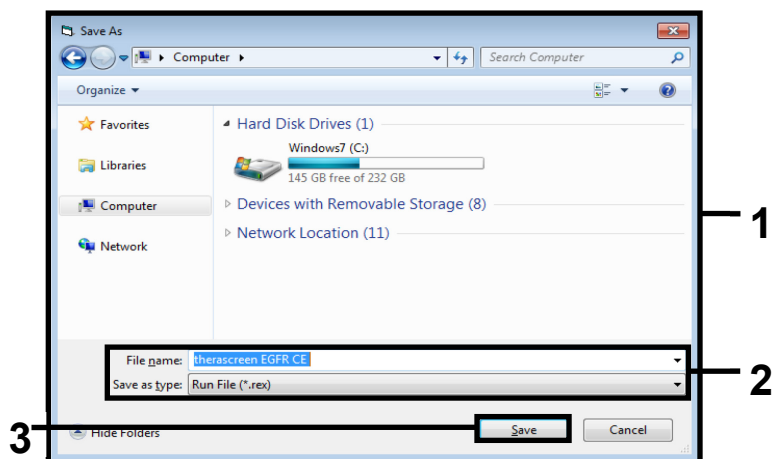

Figure 6. "Save As" window (1) (2 = "File Name" and "Save as type" fields; 3 = "Save" button).
17. The “Save As” windows opens. Chose an appropriate file name and save the PCR run as a \*.rex run file to the selected location. Click “Save” (Figure 6).